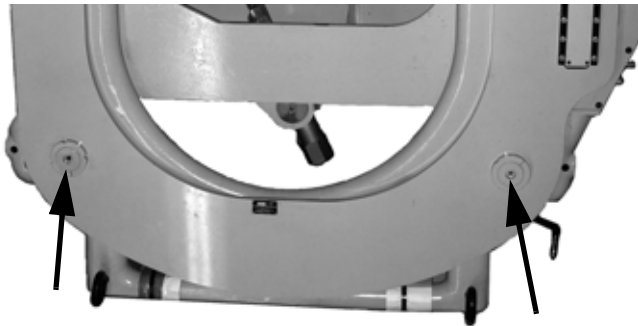

Figure 6-1. There are two grease fittings on the top of the saw bow.
- Two on top of the saw bow (one on each side)—Figure 6-1.